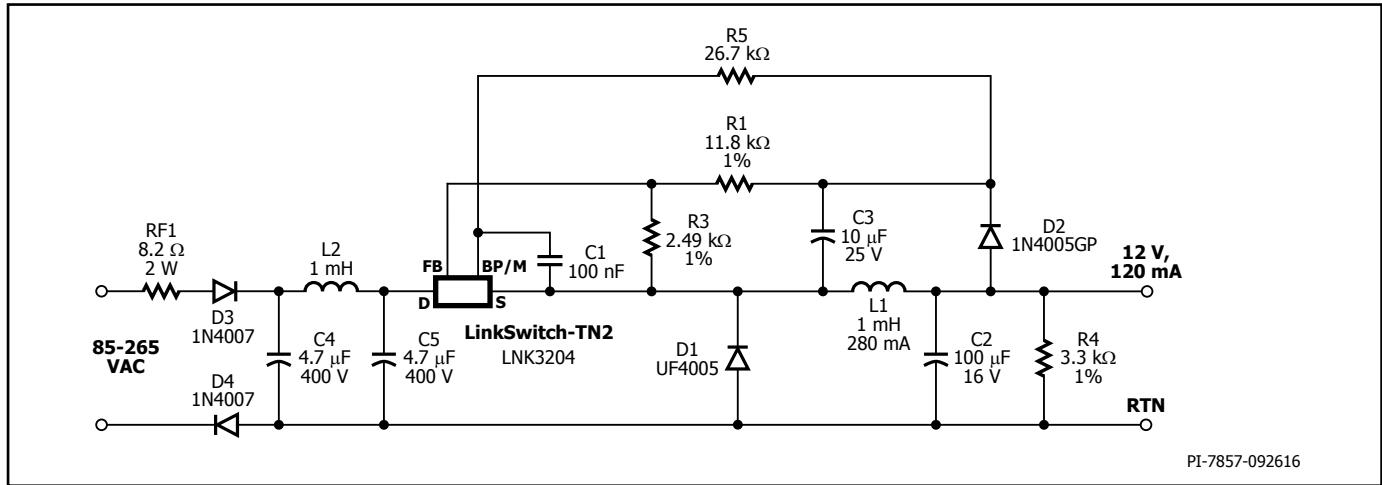
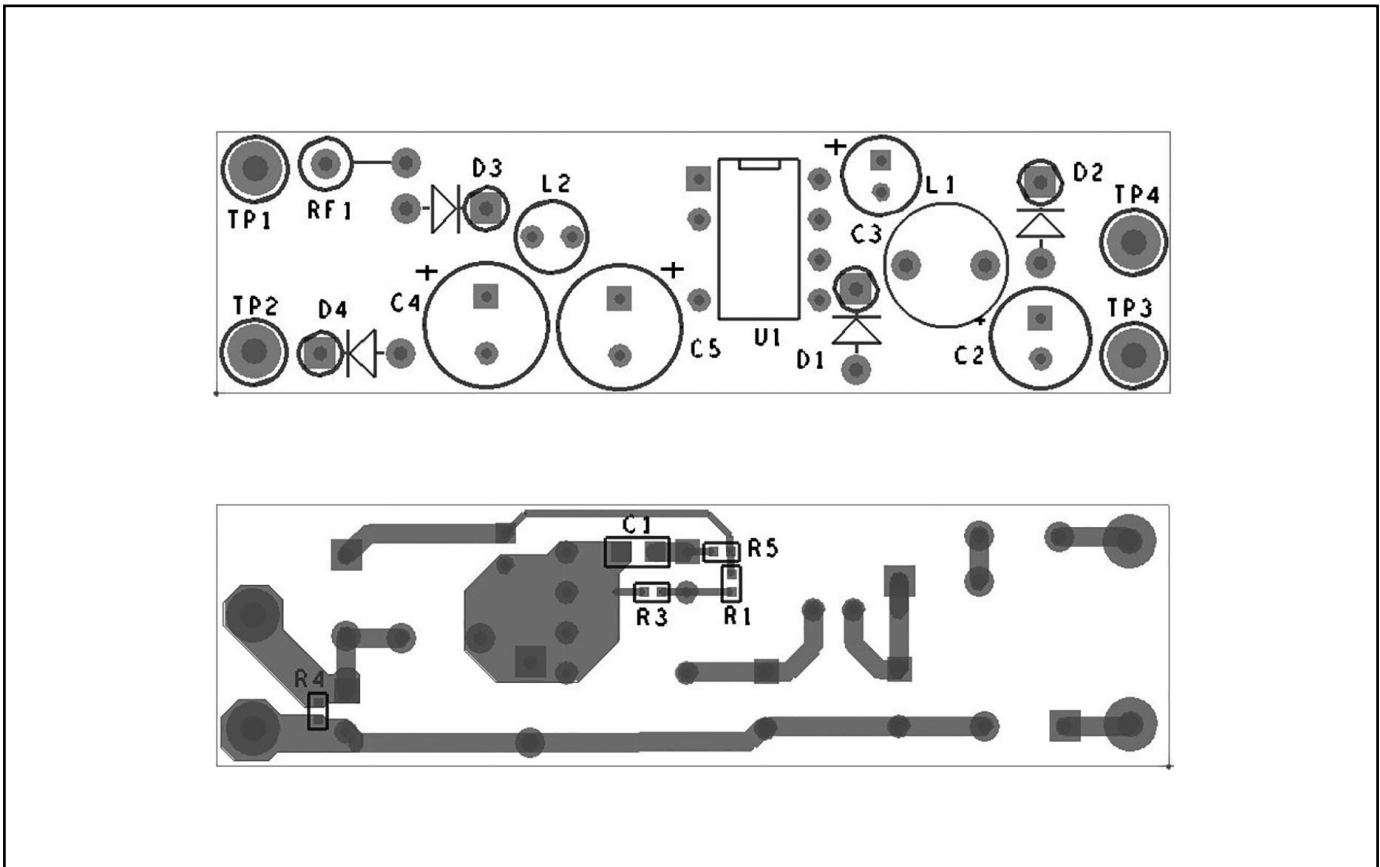

Figure 8. Universal Input, 12 V, 120 mA Constant Voltage Power Supply using LinkSwitch-TN2.
Figure 9a. Recommended Printed Circuit Layout for LinkSwitch-TN2 using P Package.
The circuit shown in Figure 8 is a typical implementation of a 12 V, 120 mA non-isolated power supply used in appliance control such as rice cookers, dishwashers or other white goods. This circuit may also be applicable to other applications such as night-lights, LED drivers, electricity meters, and residential heating controllers, where a non-isolated supply is acceptable.
Regulation is maintained by skipping switching cycles. As the output voltage rises, the current into the FEEDBACK pin will rise. If this exceeds I_{FB} then subsequent cycles will be skipped until the current reduces below I_{FB} . Thus, as the output load is reduced, more cycles will be skipped and if the load increases, fewer cycles are skipped. To provide overload protection if no cycles are skipped during a 50 ms period, LinkSwitch-TN2 will enter auto-restart, limiting the average output power to approximately 3% of the maximum overload power. Due to tracking errors between the output voltage and the voltage across C3 at light load or no-load, a small pre-load may be required (R4). For the design in Figure 8, if regulation to zero load is required, then this value should be reduced to 2.4 k Ω .
Referring to Figure 8, the following considerations may be helpful in selecting components for a LinkSwitch-TN2 design.
Figures 9a, 9b and 9c are printed circuit board layout design examples for the circuit schematic shown in Figure 8. The loop formed between the LinkSwitch-TN2, inductor (L1), freewheeling diode (D1), and output capacitor (C2) should be kept as small as possible. The BYPASS pin capacitor C1 should be located physically close to the SOURCE (S) and BYPASS (BP) pins. To minimize direct coupling from switching nodes, the LinkSwitch-TN2 should be placed away from AC input lines. It may be advantageous to place capacitors C4 and C5 in-between LinkSwitch-TN2 and the AC input. The second rectifier diode D4 is optional, but may be included for better EMI performance and higher line surge withstand capability.